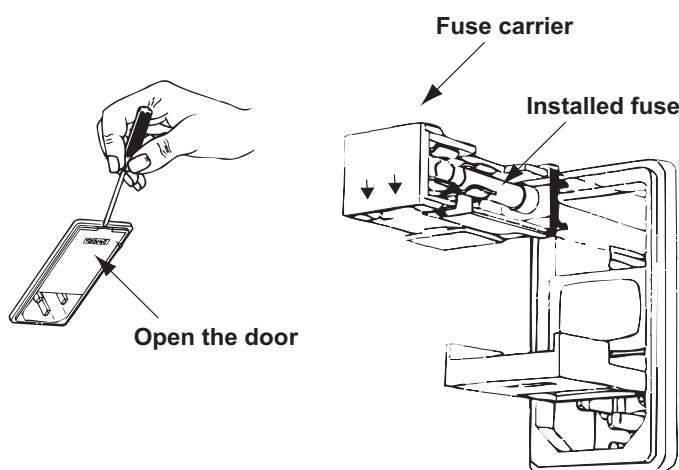

Figure 1 Checking the Main Fuse
1. Open the fuse compartment door in the AC power input housing with a small flat-blade screwdriver (Figure 1). Carefully pull out the fuse carrier.
2. Check that the fuse has the correct rating. The fuse carrier must be inserted into the compartment with the orientation shown in Figure 1. *Do not force the carrier into the compartment or both could be damaged.*